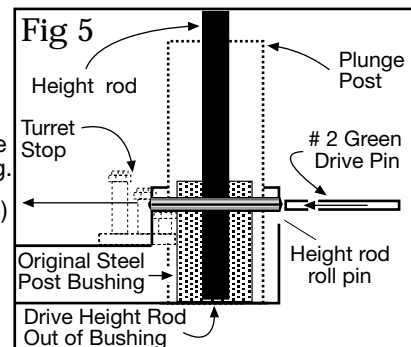

Fig 5
- Select: hammer and #2 green drive pin. Using (fig 5 & 6) Line #2 green drive pin up with the height rod roll pin and drive rollpin from base.
1. With template properly located on insert or table top, center punch on crosshairs all router mounting holes and the Router Raizer access. Using a 1/8" drill bit, drill the Router Raizer access hole through the insert or table top. Turn insert or table top over (fig 5) locate the 1/8" raizer access hole. Center a 3/4" spade or forsnor bit on the 1/8" hole and drill a pocket deep enough for the #1 mainshaft head to turn freely. Turn insert or table top over. Center a 1/2" drill bit on the 1/8" hole and drill completely through into the 3/4" pocket. Finish by drilling and countersinking remaining holes, and installing the dust cover insert. See below for instructions.